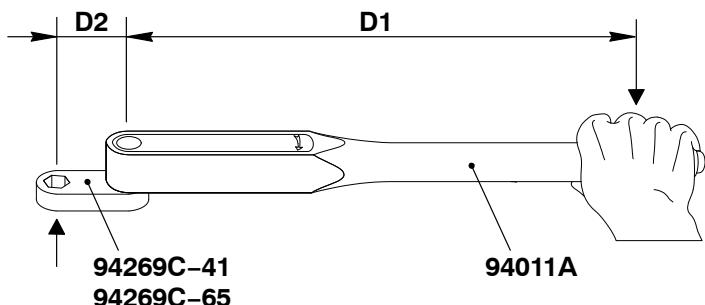

Fig. 8
- 1) Make sure that the sealing faces of the intermediate plate (6, Fig. 8) and the related faces in the injection valve (10):